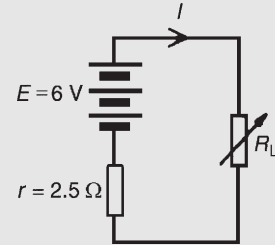

Figure 13.82
**Problem 22.** The circuit diagram of Fig. 13.82 shows dry cells of source e.m.f.  $6\text{V}$ , and internal resistance  $2.5\Omega$ . If the load resistance  $R_L$  is varied from  $0$  to  $5\Omega$  in  $0.5\Omega$  steps, calculate the power dissipated by the load in each case. Plot a graph of  $R_L$  (horizontally) against power (vertically) and determine the maximum power dissipated.